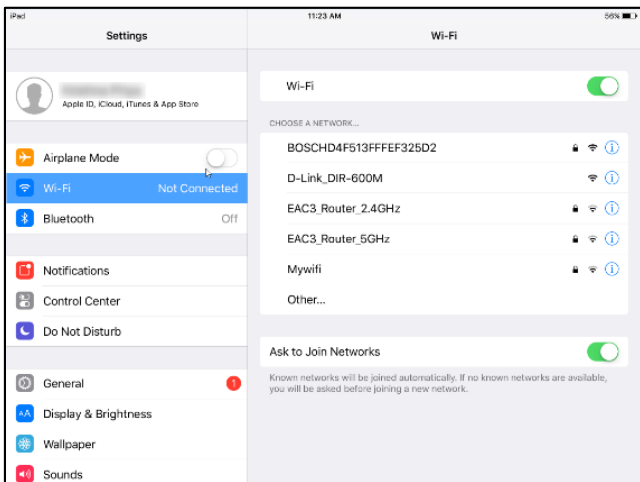

Figure 19: IPAD - Wi-Fi Settings
3. Make sure HPC unit Wi-Fi is turned on indicated by a red LED. Tap the Wi-Fi network which you want to connect (HPC Wi-Fi names begin with 'BOSCH'). See figure 19). Enter the password that is located on the Wi-Fi WIM and tap the join button.